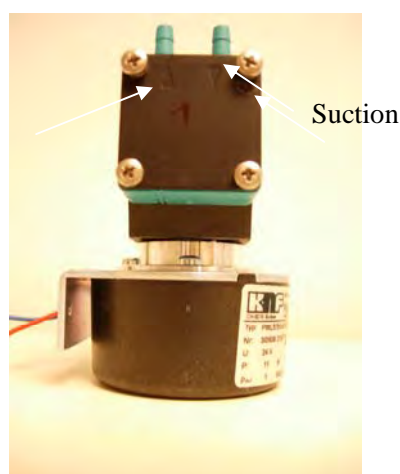

Figure 6.3
1. Locate the vacuum pump (P-upper) and connection tube marked as ‘*’(Suction) in Figure 6.3 below.